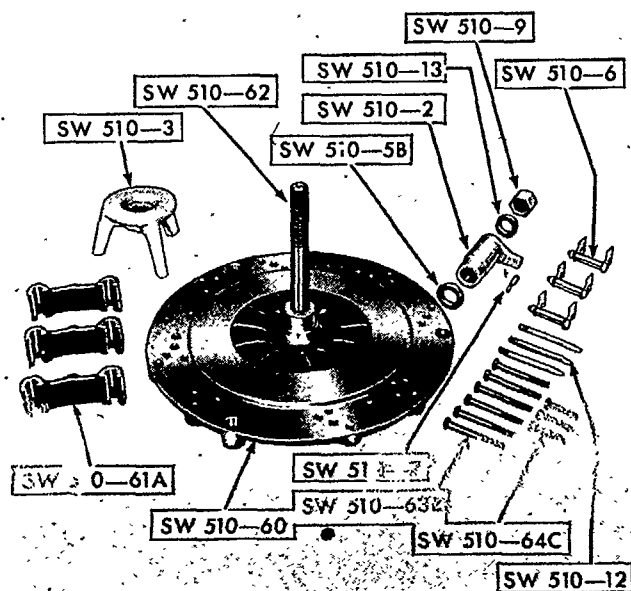

Figure 56
Listed below, and illustrated in Figure 56, are the detail parts of Universal Clutch Fixture, Tool Number SW510, which are used to disassemble, assemble and adjust the double clutch.
1. Insert the serrated end of the Fixture Spindle, Tool No. SW510-62, Figure 56, into the hub of the Fixture Base, Tool No. SW510-60. Position the fixture base on edge and install the Washer, Tool No. SW510-66 (not shown) and Jam Nut, Tool No. SW510-65 (not shown) on the end of the spindle that protrudes from the bottom of the base. Tighten the nut until the spindle bottoms in the hub.
2. Bolt the assembled Fixture Base, Tool No. SW510-60, Figure 56, to a work bench.